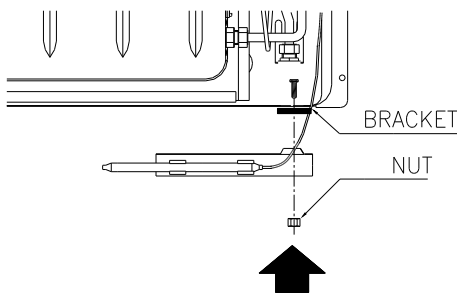

Figure 19
2. Place the thermostat sensor under the right bottom of the bracket and fix it with the same nut that fixes the appliance to bracket as shown in figures 19 and 20